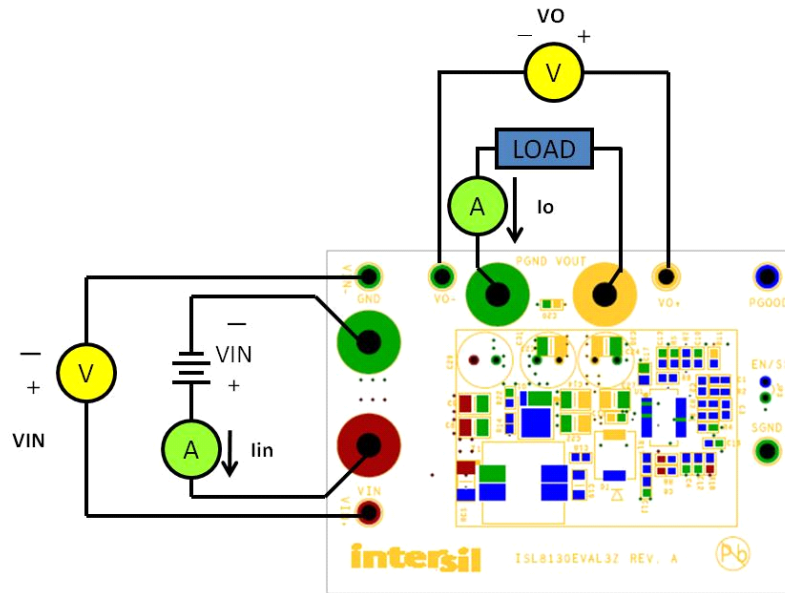

FIGURE 2. ISL8130EVAL3Z TEST SET-UP
1. Ensure that the Evaluation board is correctly connected to the power supply and the electronic load prior to applying any power. Please refer to Figure 2 for proper set-up.